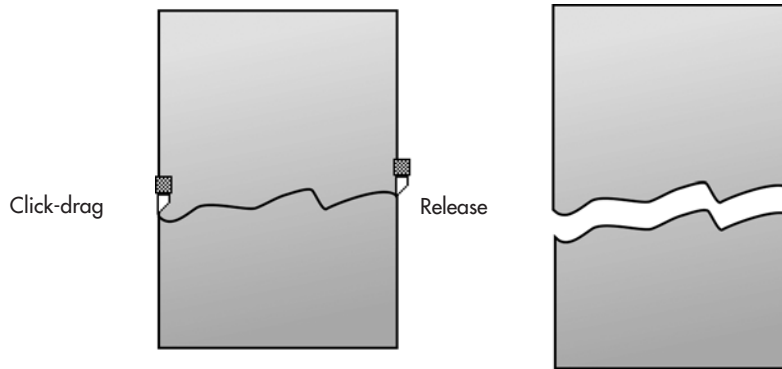

FIGURE 11-6 Click-drag to create a freeform cut.
- **Freeform cuts** This technique can be used, for example, to quickly create an illustration of a sheet of paper roughly torn in half. You hover the cursor until it turns upright, click-hold the near side of the object, and then drag until you reach the far side of the shape, as shown in Figure 11-6.